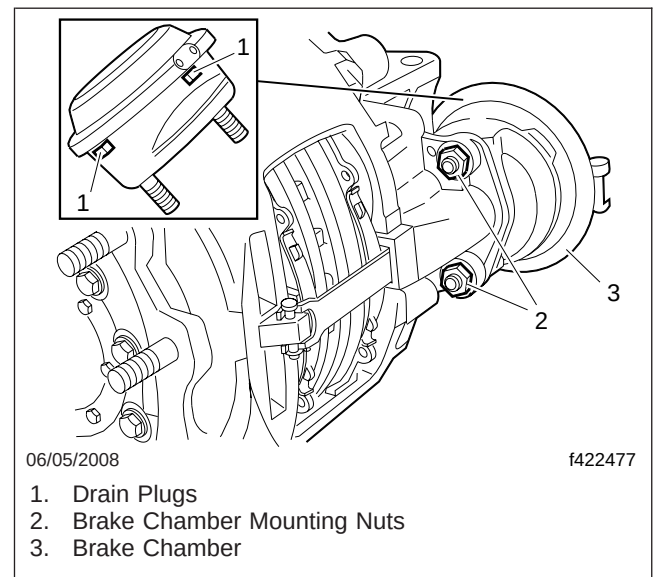

Fig. 2, Brake Chamber Installation
6. Remove and discard the brake chamber mounting nuts. See Fig. 2.